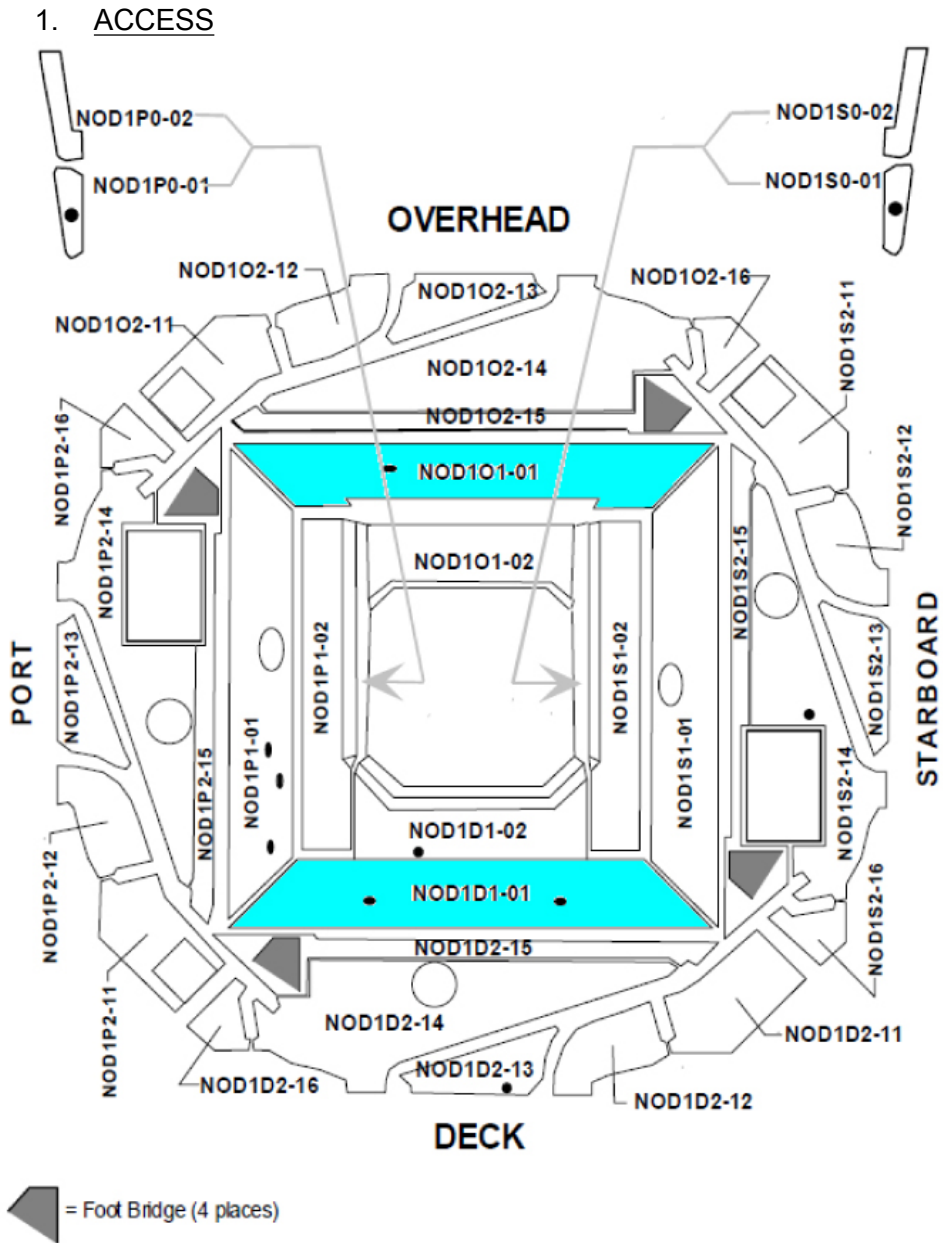

Figure 1. Alcove Closeout Panel Removal.
- 1.1 Remove following Closeout Panel listed in Table 1 (Ratchet, 1/4" Drive; 5/32" Hex Head, 1/4" Drive): Refer to Figures 1, 2, 3, and 4.